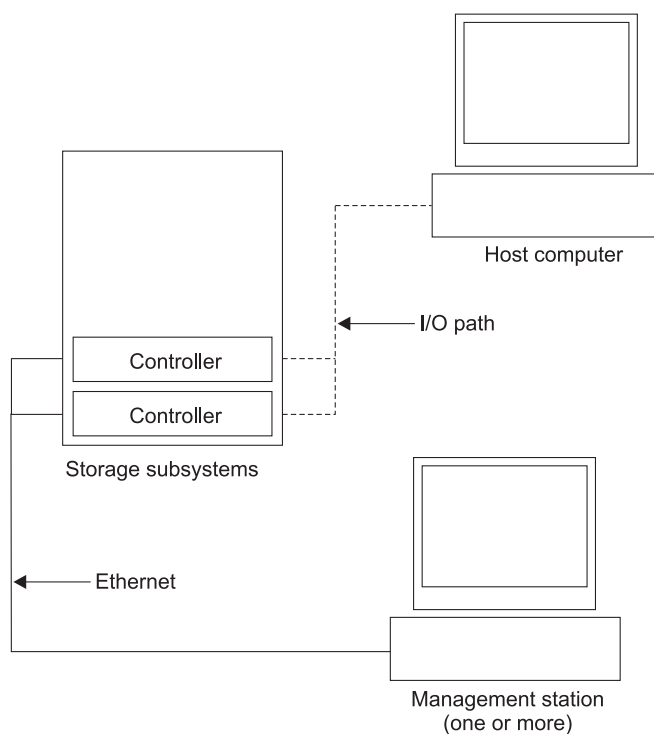

Figure 37. Direct (out-of-band) management method
This section applies to direct (out-of-band) management configurations only. If your configuration uses host-agent (in-band) management, skip this section. Use the Ethernet management port on the rear of the DCS3700 system storage controllers for direct management of the storage subsystems (see Figure 37 on page 57).
**Direct (out-of-band) management method:** This method uses Ethernet connections from a management station to each controller in the storage subsystem. You must install at least one management station. The management station can be the host or a workstation on the Ethernet network. The client software is installed on the management station. Attach Ethernet cables to each management station (one pair per storage subsystem). You will connect the cables to each storage system controller later when you install the storage subsystem. Figure 37 on page 57 shows the direct (out-of-band) management method.